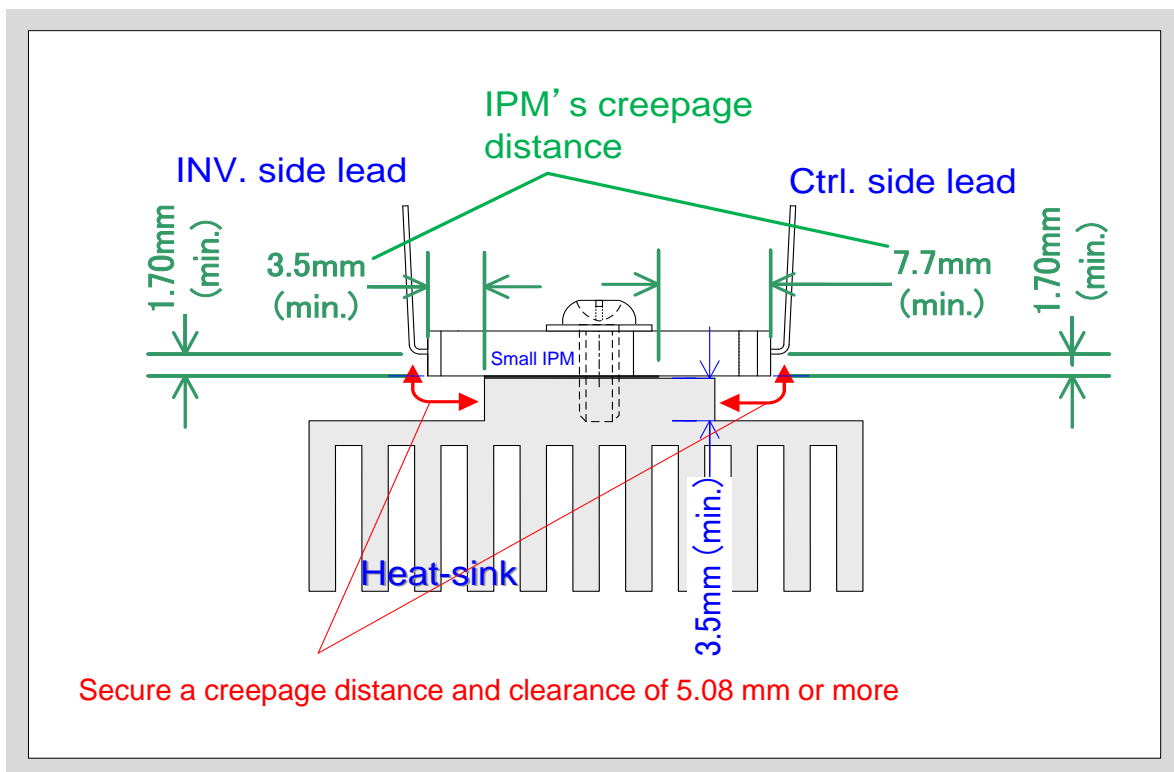

Fig. 8-2 Isolation distance of heat sink
- By processing the heat sink as shown in Fig. 8-2, it is possible to secure a clearance distance of 5.08 mm or more in accordance with UL508C table 36.3 standard (240 VAC / with surge protection device (SPD)).